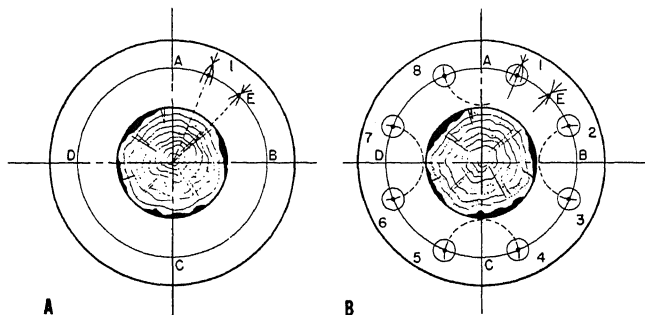

Figure 3-31.—Eight-hole flange development.
the same method as described for locating point (1) in the 4-hole layout. Then divide arc AE in half by the same method. The midpoint of arc AE is the location for the center of hole (1). (see part A of fig. 3-31.) Next, set your dividers for distance A (1), and draw an arc across the pitch circle line from A at point (8); from B at points (2) and (3); from C at (4) and (5); and from D at (6) and (7). (see part B of fig. 3-31.) Now set your calipers for distance AE and